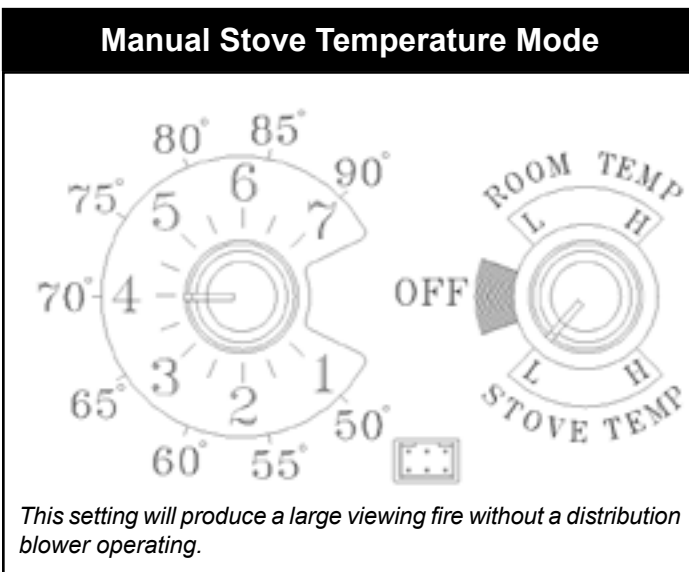

Fig. 9
7. Setting the feed adjuster # for maximum burn: With the unit burning in "AUTO", turn to "Stove Mode" and put the fan on "H". Set the Temperature Dial to #7. Allow the unit to burn for about 30 minutes and check ash on front of burn pot. Fig. 9. If the ash line is larger than 1", turn the feed adjuster from #4 to #5. Allow another 30 minutes of burn time and check again. If , at #6 setting, a 1" or less ash bed is not obtainable, it is not a problem. The 1" ash bed is only at maximum burn rate and during normal operation, the ash bed will be larger.